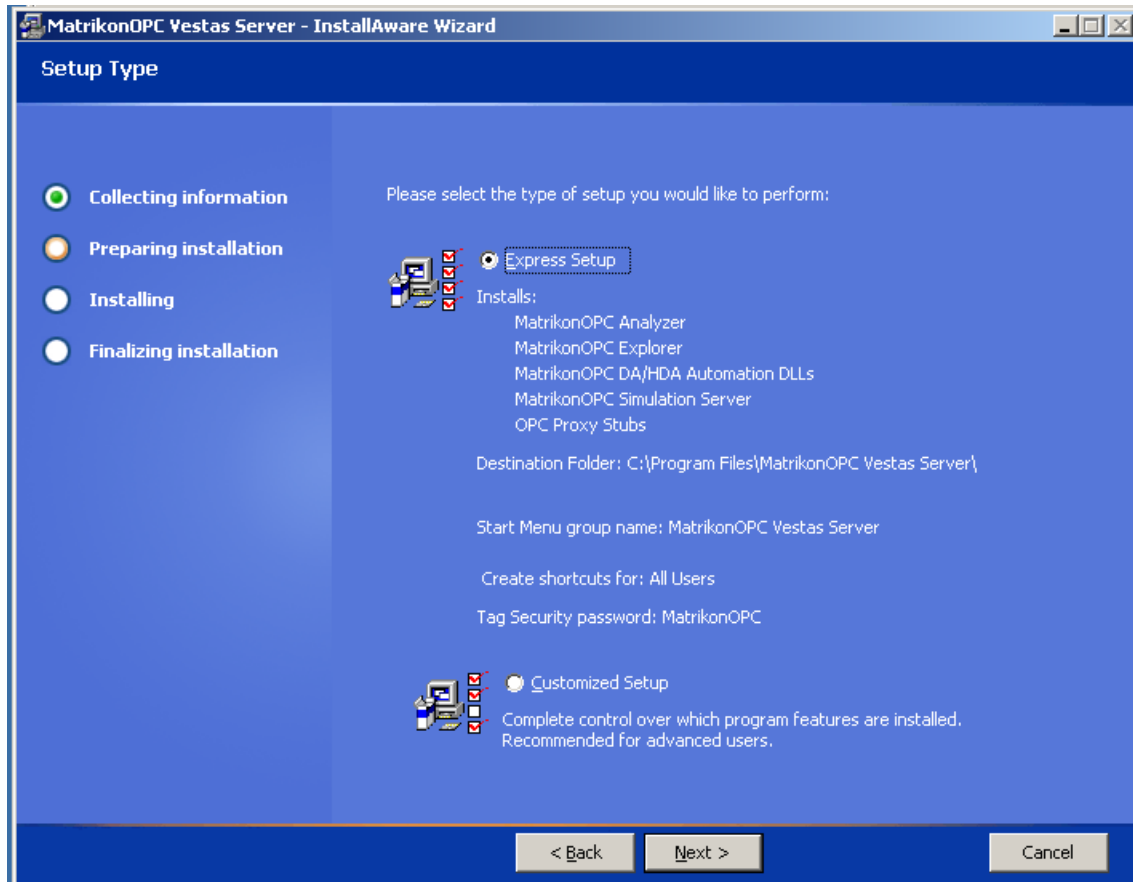

Figure 80 - Setup Type Screen
8. Click on the **Next** button. The **Setup Type** screen (Figure 80) appears.
11. The Select Features Screen (Figure 80) appears.